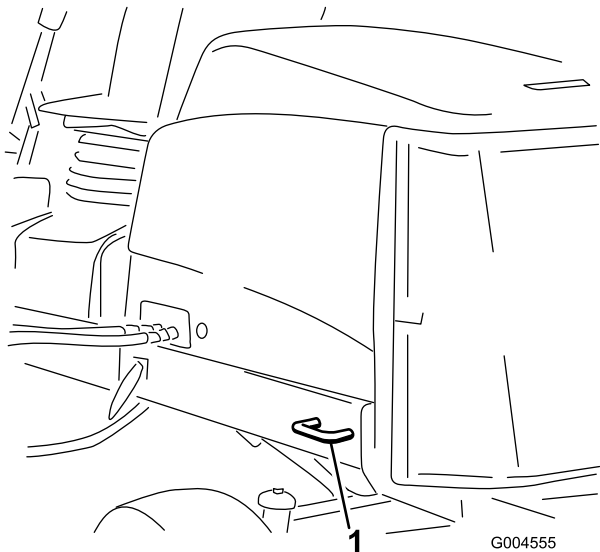

Figure 47
- Rear—each side of the machine on the rear frame (Figure 47).